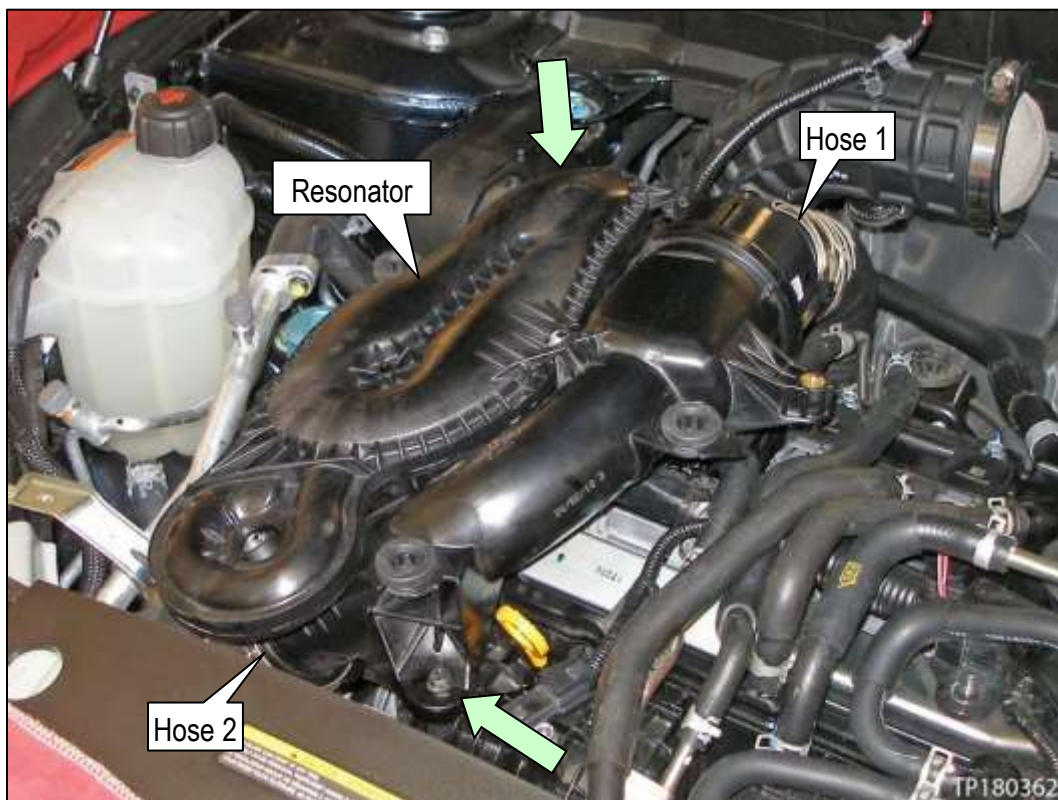

Figure 85
c. Install the bolts (see arrows in Figure 85).